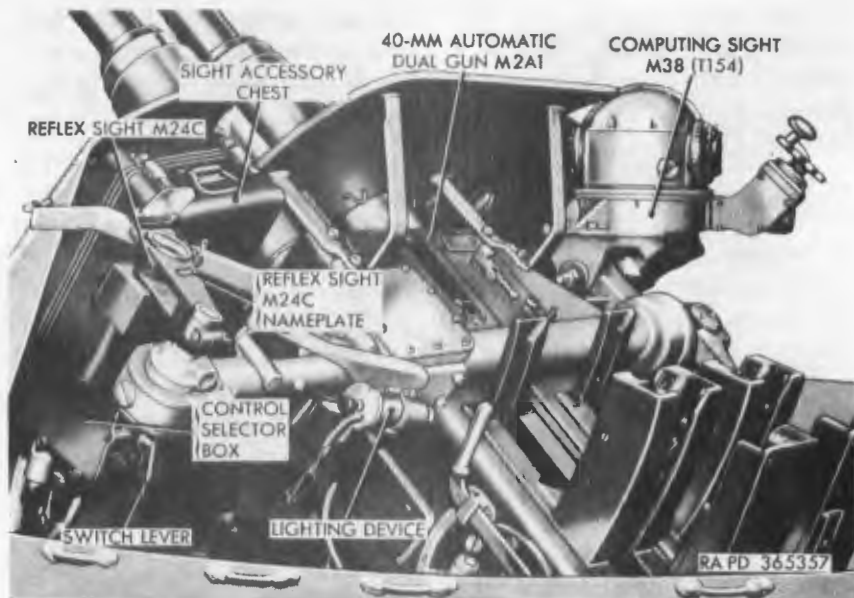
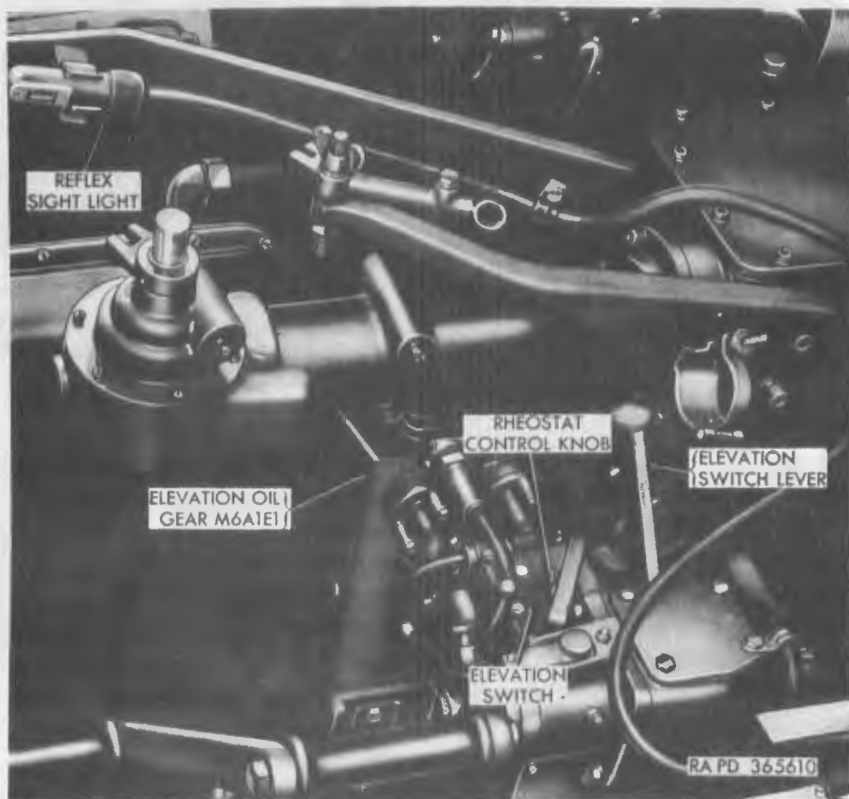

Figure 23. Computing sight M38 (T154)—installed view.
Figure 32. Elevation switch and reflex sight light.
a. General (fig. 23). The computing sight M38 (T154) is an on-carriage sighting device designed to provide an effective means of controlling fire of the 40-mm automatic dual gun M2A1 against either a vehicular or a rapidly moving aerial target. It is mounted across the top of the breech casings.
- (1) *Speed knobs.* The speed knobs are located on each side of the computer and graduated from 0 to 700 mph in 20-mph increments. The speed knobs rotate together so that either one or both may be used to set the estimated speed of the target into the computer.
- (2) *Computer bail.* The computer bail, mounted across the top of the computer, supports the flight direction indicator and is manually pivoted to correspond to the angle of dive or climb of the target.
- (3) *Computer positioning handwheel.* The computer positioning handwheel, mounted on the rear of the computer, rotates the computer in azimuth to place the flight direction indicator in the direction of target flight and parallel with the target course.
c. Reflex Sight M24C. The reflex sight M24C (fig. 23) is a sighting instrument designed to superimpose a reticle pattern (fig. 25) in the gunner's line of sight and is stowed in the sight accessory chest (fig. 23). It is provided with a dovetail slot at its forward end to receive the lamp bracket of the lighting device (fig. 23) or reflex sight light (fig. 32), which provide a source of variable illumination for the sight.
- (1) *Remote control provisions.* Production vehicles with Ordinance serial No. 1878 and up have been modified to eliminate the control selector box (fig. 23) and the remote
- (2) *Lighting device and reflex sight light.* The lighting device (fig. 23) installed on vehicles with Ordnance serial Nos. 1 through 1662 include a resistor, rheostat, and rheostat control knob in the case of the lighting device. Vehicles with Ordnance serial No. 1663 and up are equipped with a reflex sight light (fig. 32), and the resistor, rheostat, and rheostat control knob are installed in the elevation switch.
- (4) *Elevation switch* (fig. 32). The elevation switch is secured to the side of the gun mount carriage to the rear of
(a) *General.* The lighting device (fig. 23) or reflex sight light (fig. 32) provide a source of variable illumination for the reticle of the reflex sight M24C (fig. 23) and operate on 24-volt direct current power received through the elevation switch.
(c) *Reflex sight light (fig. 32).* The reflex sight light, mounted on the left ring sight mounting bracket, is designed to fit in the dovetail slot provided on the reflex sight. The controlling elements for this light are installed in the top of the elevation switch and the principle of operation is identical to that of the lighting device (b above).